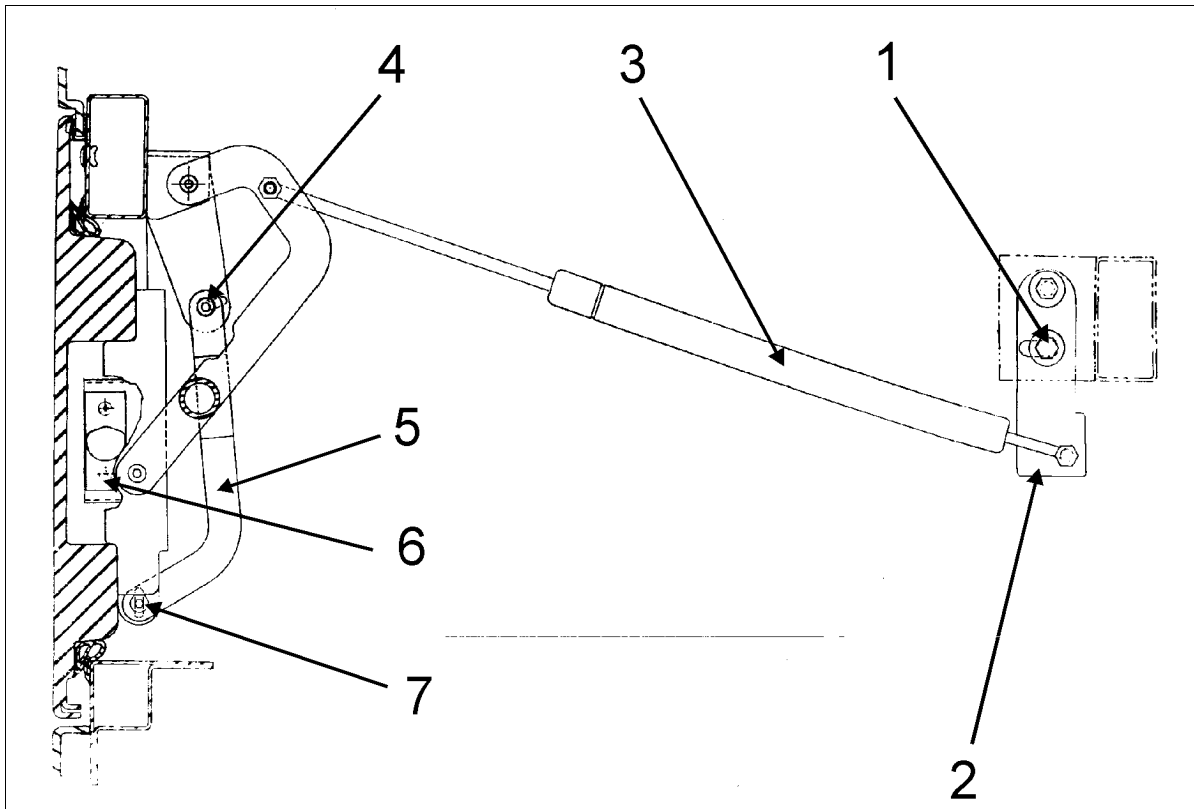

FIGURE 40: FRONT ELECTRICAL COMPARTMENT
2. Loosen nut (1, Fig. 40). Pull on pressure cylinder (3, Fig. 40) and tighten the nut (1, Fig. 40).
3. Loosen nut (4, Fig. 40). Pull arm (5, Fig. 40) out of the vehicle and tighten the nut (4, Fig. 40).
4. Loosen nut (7, Fig. 40). Adjust arm (5, Fig. 40) in the slot. Position the door parallel to vehicle exterior side panel .
To adjust the latch mechanism, open the door to access the screws holding the latch mechanism to the door panel. Loosen the screws (6, Fig. 40) and move the latch assembly as needed. If necessary remove the screws and add shims. Tighten the screws. Check door fit and operation.